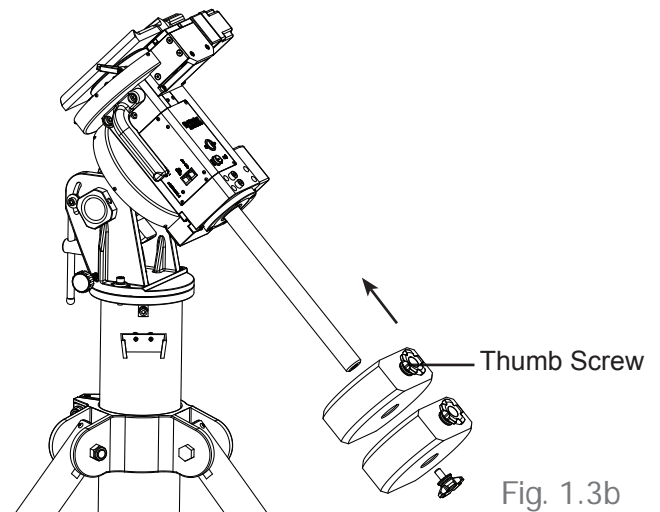

Fig. 1.3b
- Loosen the counterweight's thumb screw and slide the counterweight onto the counterweight rod. Retighten the thumb screw to secure the counterweight on the rod. (Fig. 1.3b)